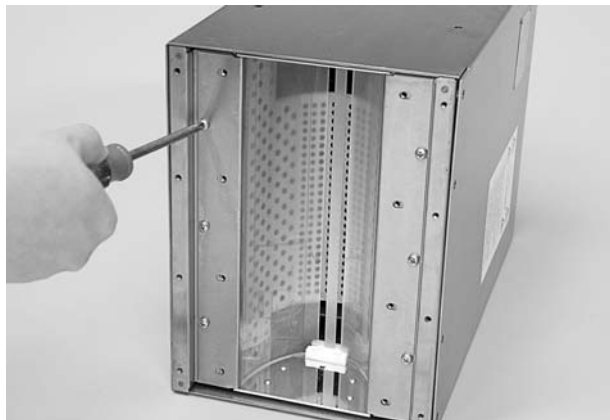

Figure 4-3 Retaining Bars Removal
5. See Figure 4-3. Remove the six mounting screws and the two retaining bars from the lamphead base.